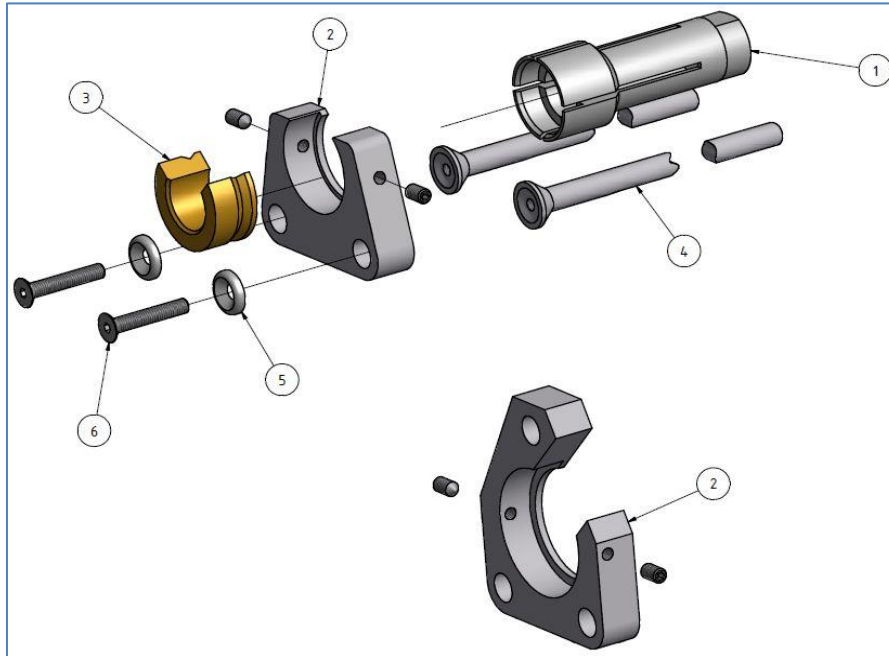

Figure 23: Gun accessories for shear connectors from 50 mm length
For pos. 4, 5 and 6 see figure 23.